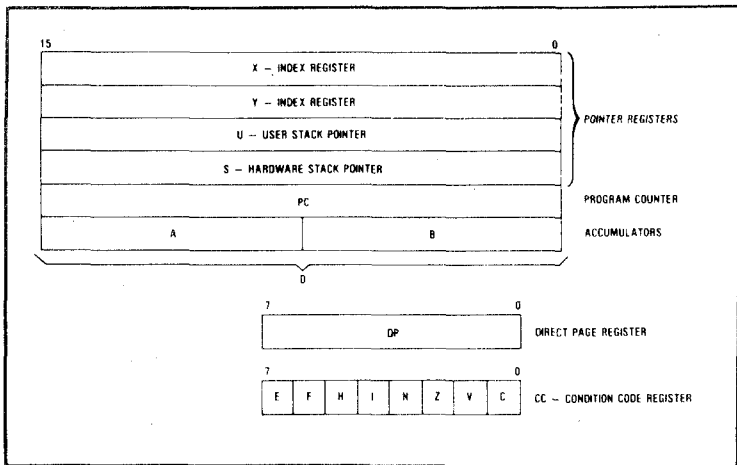
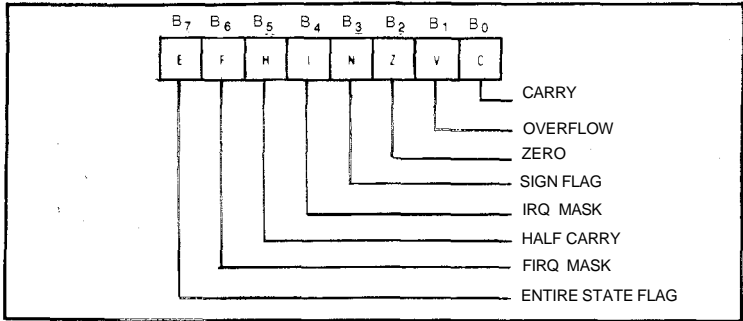

Fig. 2-1. Programming model of the microprocessing unit (courtesy of American Microsystems, Inc.).
Fig. 2-2. Condition code register format (courtesy American Microsystems, Inc.).
As you can see, the device is extremely flexible and offers the software designer a great deal of power in a microprocessor. Figure 2-1 is the basic programming model for the 6809 μ P. You will notice that the X and Y index registers are 16-bits wide, and the U and S stack pointers are also 16-bits. The interesting register is made up of two 8-bit registers, A and B, which together make up D. It is within these three registers—*accumulators*—that most of the processor's work will be done. The direct page and condition code registers are 8-bits wide and provide programming enhancement that will be explained later.
Taking a look at Fig. 2-1, you can see that within the structure there are the X and Y 16-bit index registers. These are also referred to as the *pointer registers*.
Stack pointers U and S, shown in Fig. 2-1, can also be used as index registers, but they serve very specific purposes in processing. The *Hardware Stack Pointer* (S) is used by the processor during subroutine calls and interrupts. The difference between this stack pointer and that on the 6800 μ P is that it points to the top of the stack rather than the next free location (Table 2-1).
The next registers, A, B and D accumulators, are made up of two 8-bit registers as shown by Fig. 2-1. The A and B registers are
The final register in the programming model of Fig. 2-1 is the condition code register (CC). Figure 2-2 is the format for this 8-bit